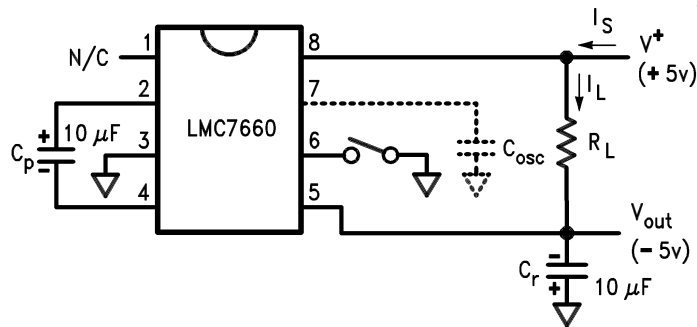

Figure 1. LMC7660 Test Circuit
- (1) Boldface numbers apply at temperature extremes. All other numbers apply at T_A = 25°C, V⁺ = 5V, C_{OSC} = 0, and apply for the LMC7660 unless otherwise specified. Test circuit is shown in Figure 1.
- (2) Limits at room temperature are specified and 100% production tested. Limits in **boldface** are specified over the operating temperature range (but not 100% tested), and are not used to calculate outgoing quality levels.
- (3) The LMC7660 can operate without an external diode over the full temperature and voltage range. The LMC7660 can also be used with the external diode Dx, when replacing previous 7660 designs.
4. External electrolytic capacitors C_r and C_p should have their polarities connected as shown in Figure 1.